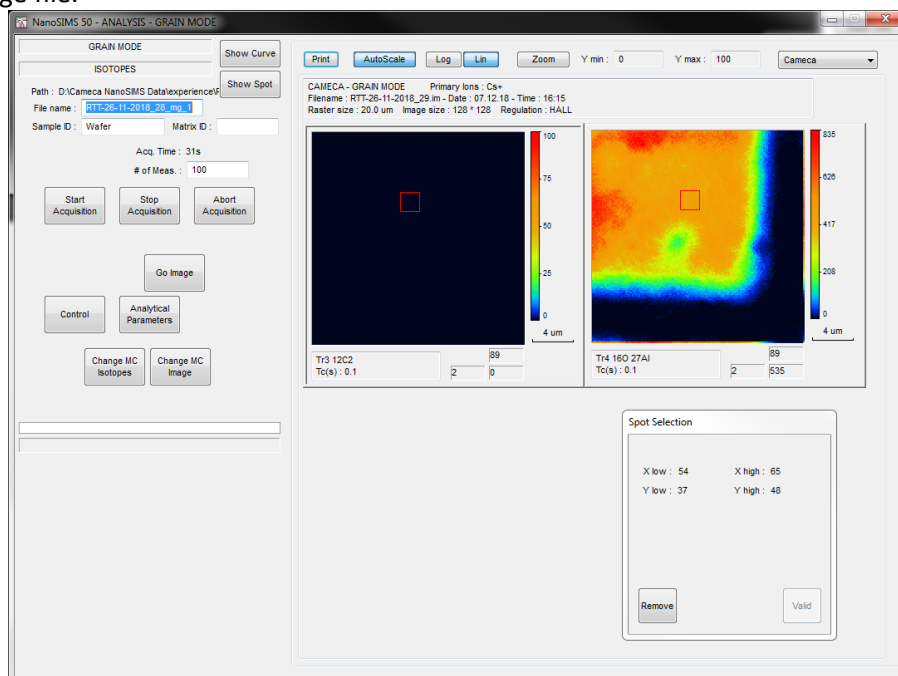

Figure 370: Analysis window after scanning mode “Semi-Graphic” in Grain mode.
- the Analysis window looks as shown in Figure 370. A pop-up window shows the grain coordinates. Click on the image to position the grain then click on “valid”. If you wish to change the selection position, drag it with the mouse, or click on “remove” and select again on the image.